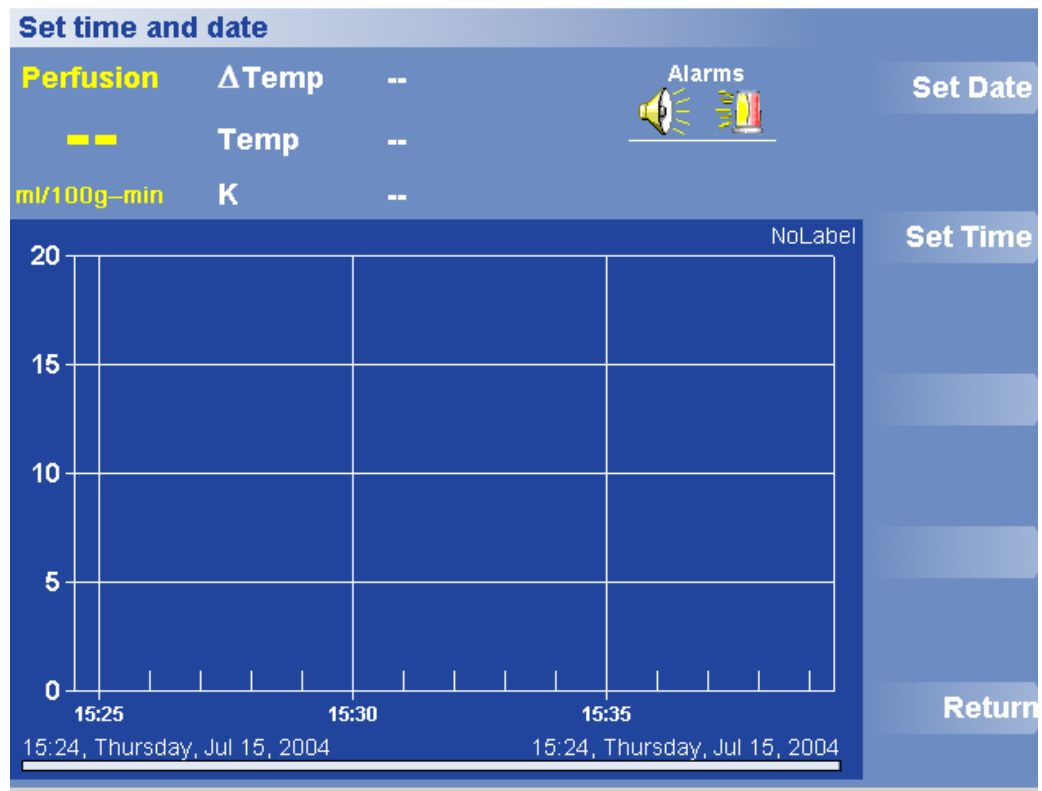

Figure 42. Date/Time Menu
Press Set Date/Time in the third options menu to open the Date/Time menu (Figure 42).
2. Press Set Date/Time. The Date/Time menu appears (Figure 42).